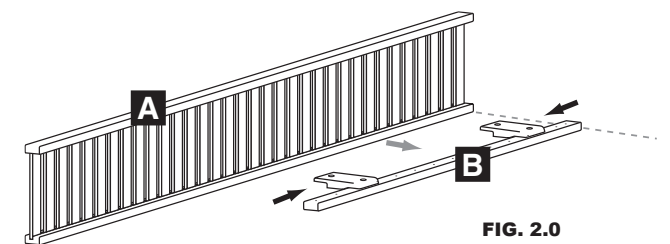

FIG. 2.0
1. Line up (A) Shelf and (B) Wardrobe Bar end.
2. Place notched side of Bar Spacer onto the Wardrobe Bar side with holes and shelf inside (Fig. 2.0)